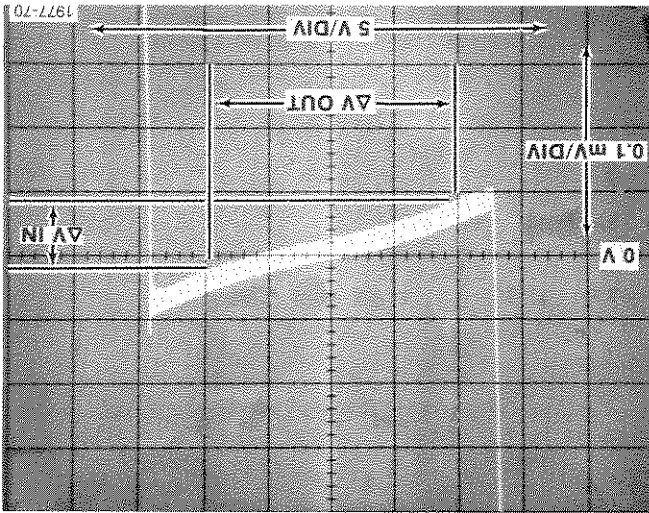

Fig. G-7. Output voltage swing.
c. Check the output voltage swing. This is measured by noting the voltage as represented by the extremes of the horizontal deflection (see Fig. G-7).